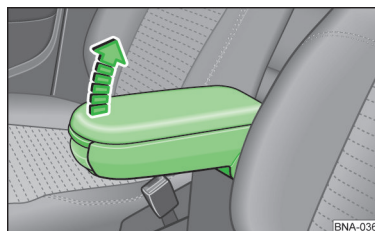

Fig. 41
- › To **adjust the height**, lift the armrest in the direction of the arrow into one of the six locking positions » fig. 41.